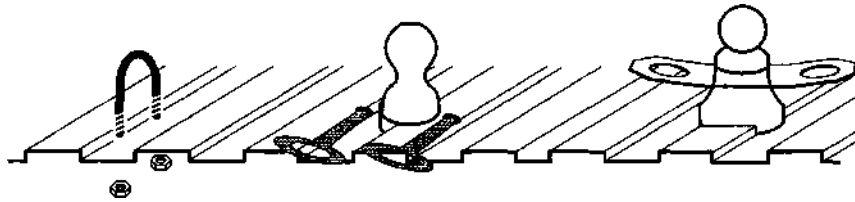

FIGURE 5
Step 9: To complete the installation install the safety chain hooks by \_\_\_\_\_ flattened tab into the slots on each side of the ball and "roll" the rTools down into position. The short L. H. hook is installed on the left and the longer right hook on the right. For A050-P affix the safety hook plate to the ball by aligning the notches to the pegs on the ball, and turn 180°. For A050-U installation drill (4) holes from under the truck through the truck bed so that the U-Bolts can be installed in a valley of the bed ribs, (figure 5)